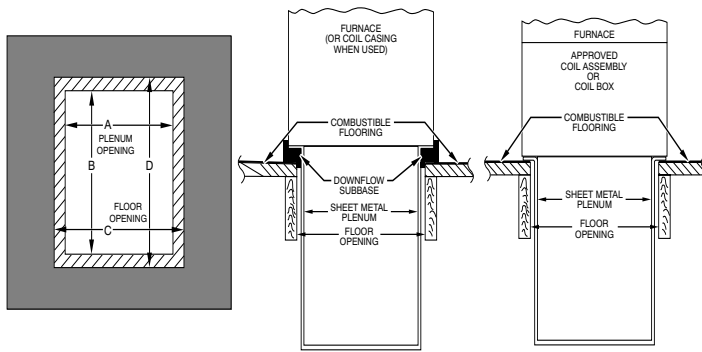

Fig. 24 – Installation on Combustible Flooring
2. Construct hole in floor per Table 5 and Fig. 24.
3. Construct plenum to dimensions specified in Table 5 and Fig. 24.
4. If downflow subbase is used, install as shown. If manufacturer's cased evaporator coil or coil casing is used, install as shown in Fig. 24.